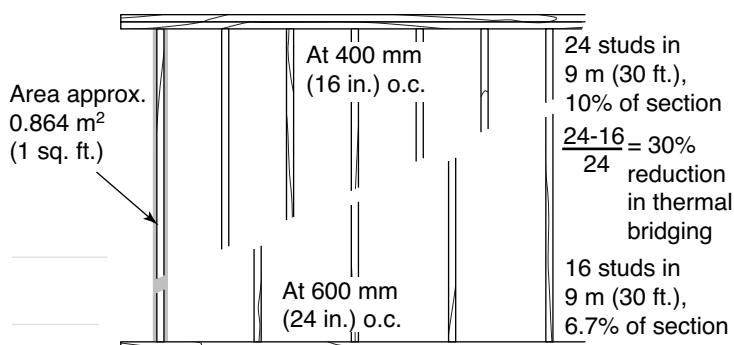

FIGURE 16
- ◆ Use the maximum stud spacing permitted by the NBC to reduce the number of studs, which are responsible for thermal bridging (see Figure 16). Stud spacing must accommodate NBC requirements for fastening and thickness of exterior sheathing and cladding.